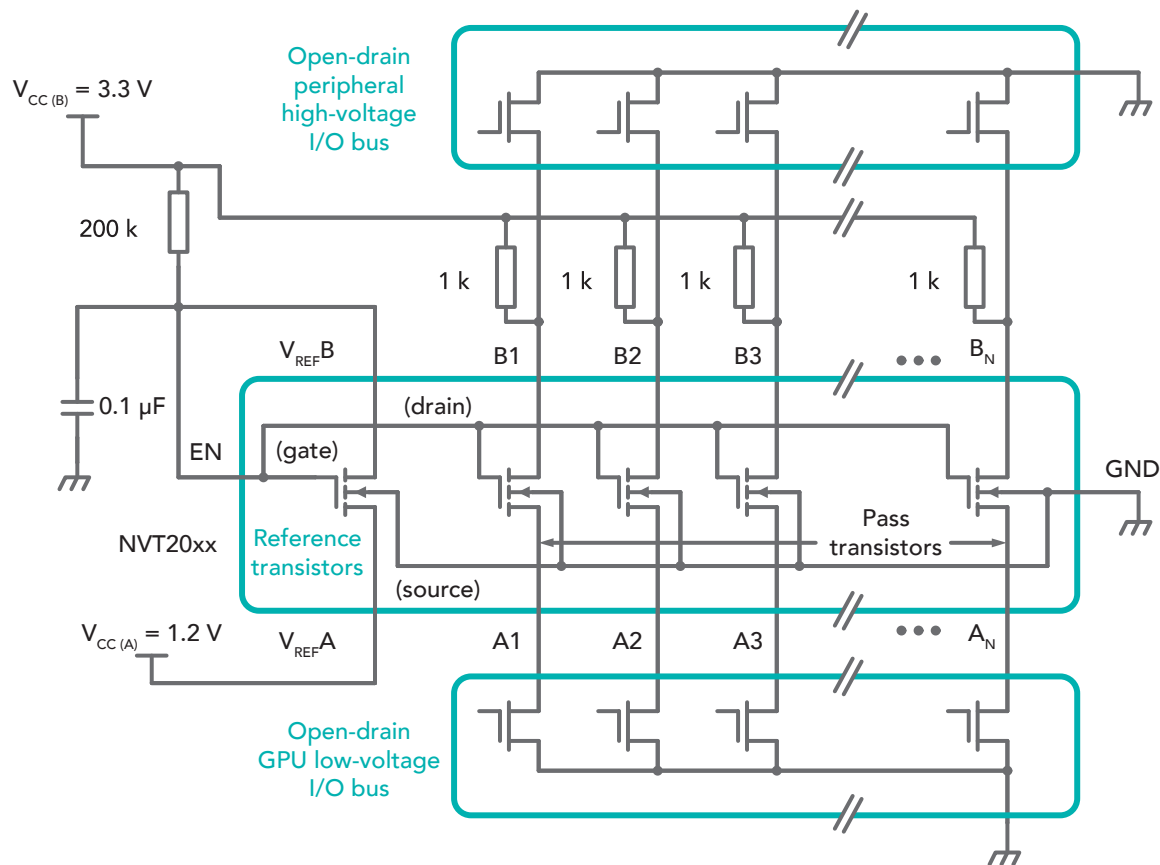

Figure 3-13. Typical NVT20xx device schematic
NVT level shifters perform bidirectional translation using an array of matching N-channel pass transistors with their gates tied together internally at the enable (EN) pin (Figure 3-13).